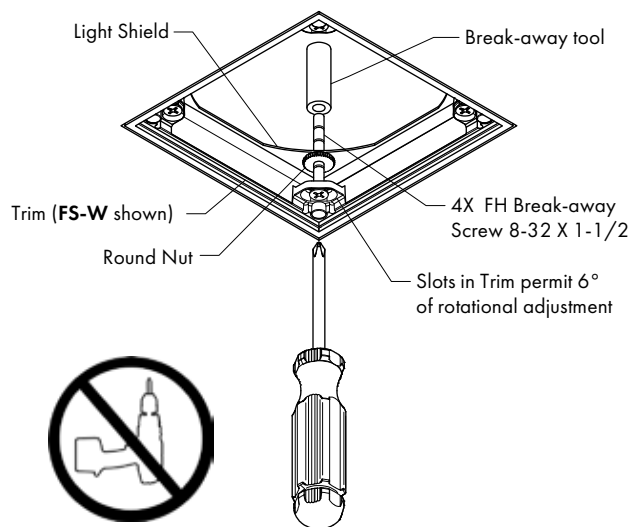

FIG 11.1 Fine adjust Trim Kit height
STEP 8 Attach trim to Housing by fastening each of the Break-away Screws in small, equal increments to avoid binding. Adjust each screw until Trim height is level with the finished ceiling as shown in section views - **FIG 11.1 & 11.3**